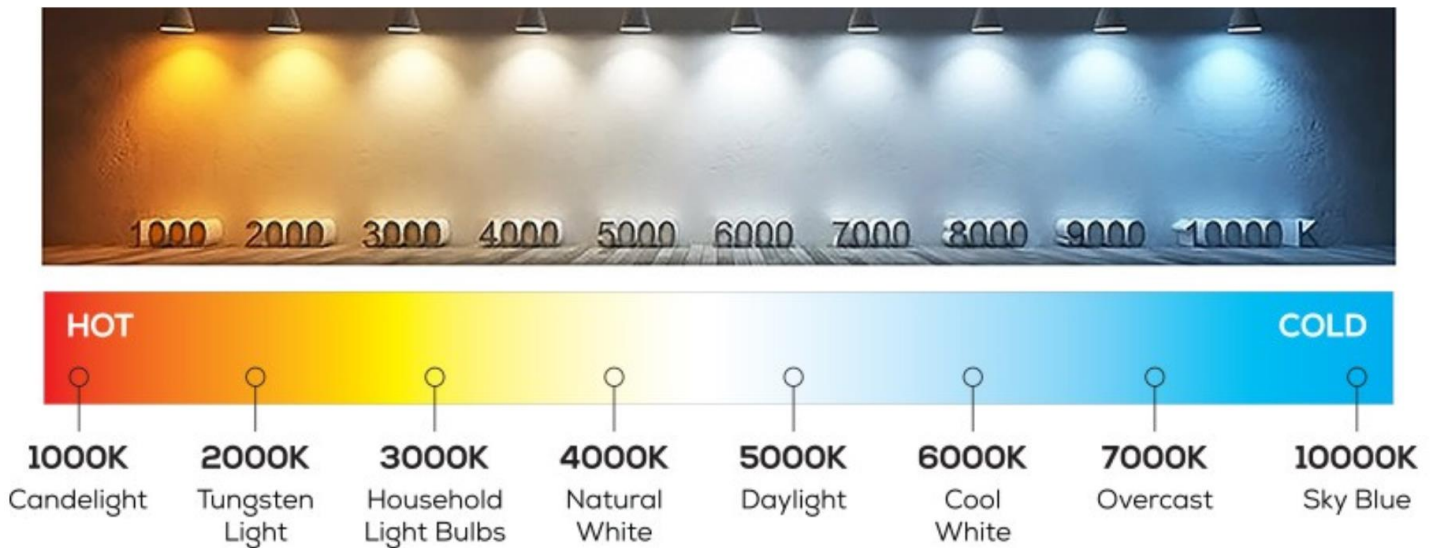

Figure 7. Correlated Color Temperature Comparison Chart
Color Temp (K): The Correlated Color Temperature (CCT) of the lamp, expressed in Kelvins. This information is obtained from the product packaging of new lighting or from manufacturer data sheets. It can also be determined in the field using a spectrometer. Absent a spectrometer, simply observe the lamp on at night and select the closest color match to the chart shown in Figure 7. Enter the approximate Kelvin temperature to the nearest thousands place. If the CCT cannot be determined, enter “Unknown.”